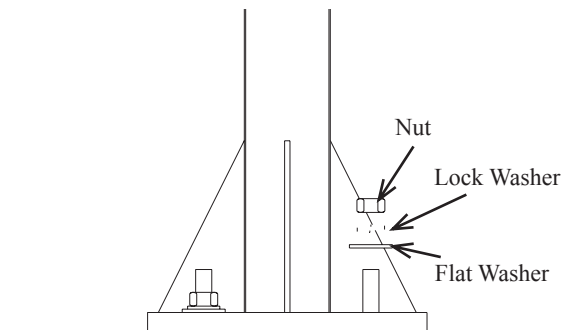

Figure 8 Securing the Pole to the Pad
7. Secure the pole to the pad with fasteners (Figure 8).